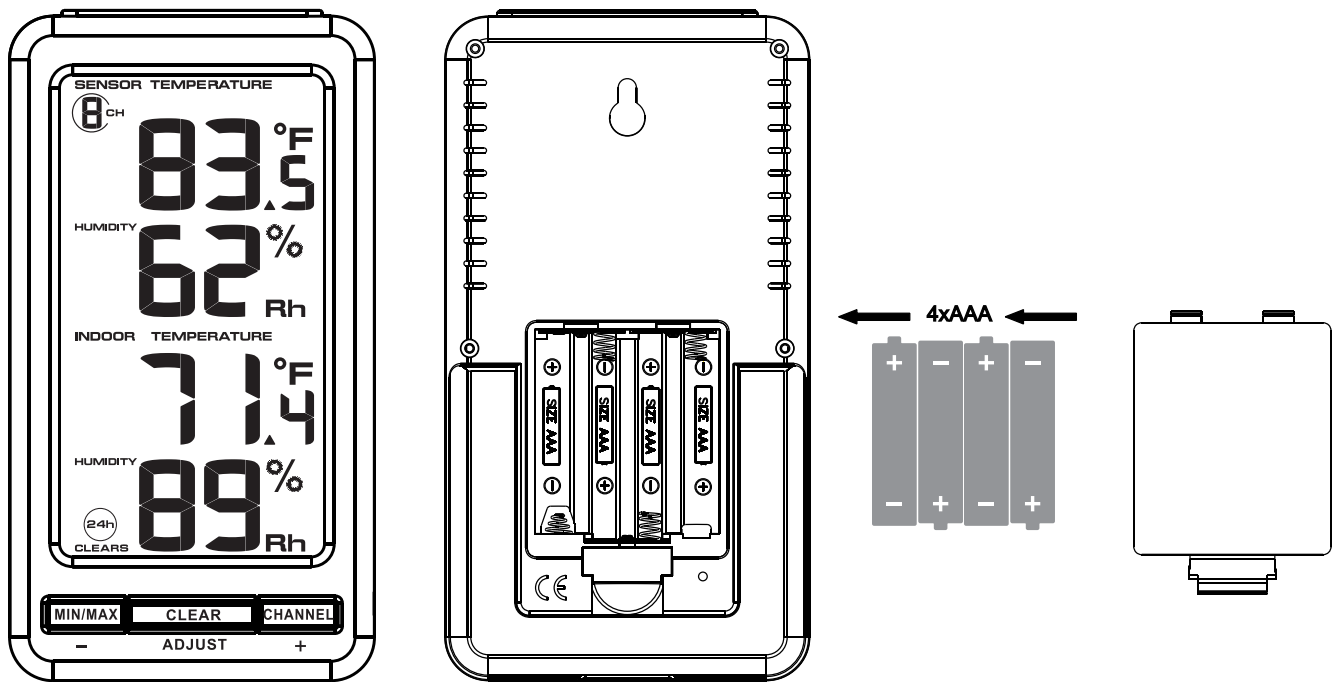

Figure 1
2. Remove the battery door on the back of the display, as shown in **Figure 1**. Insert four AAA (alkaline or lithium, avoid rechargeable) batteries in the back of the display console.